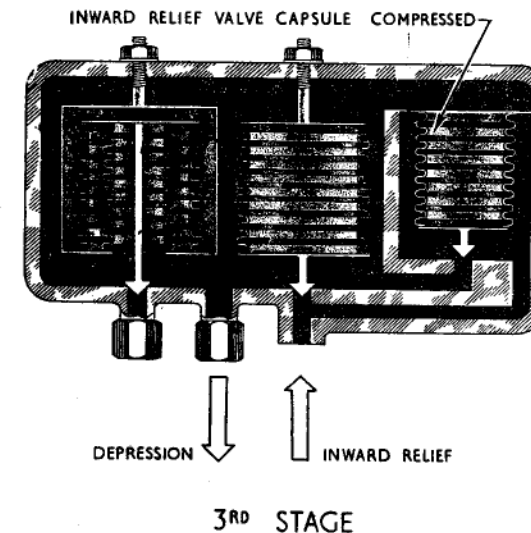

Fig. 6. Functional diagram—pressure regulator
15. Fig. 6 shows the regulator in three stages of operation. In the first stage it will be seen that the pressure maintaining valve is open and supply can flow into the case and out of the delivery connection to the scanner equipment. As pressure builds up in the equipment and casing it is felt on the caged bellows which will compress, thus lowering the valve; when the scanner equipment reaches its operating pressure the valve will be closed. A fall of pressure in the equipment will cause the bellows to expand and open the valve until the operating pressure is re-established. In normal operation the valve will always be passing a volume of air equal to the total leakage.